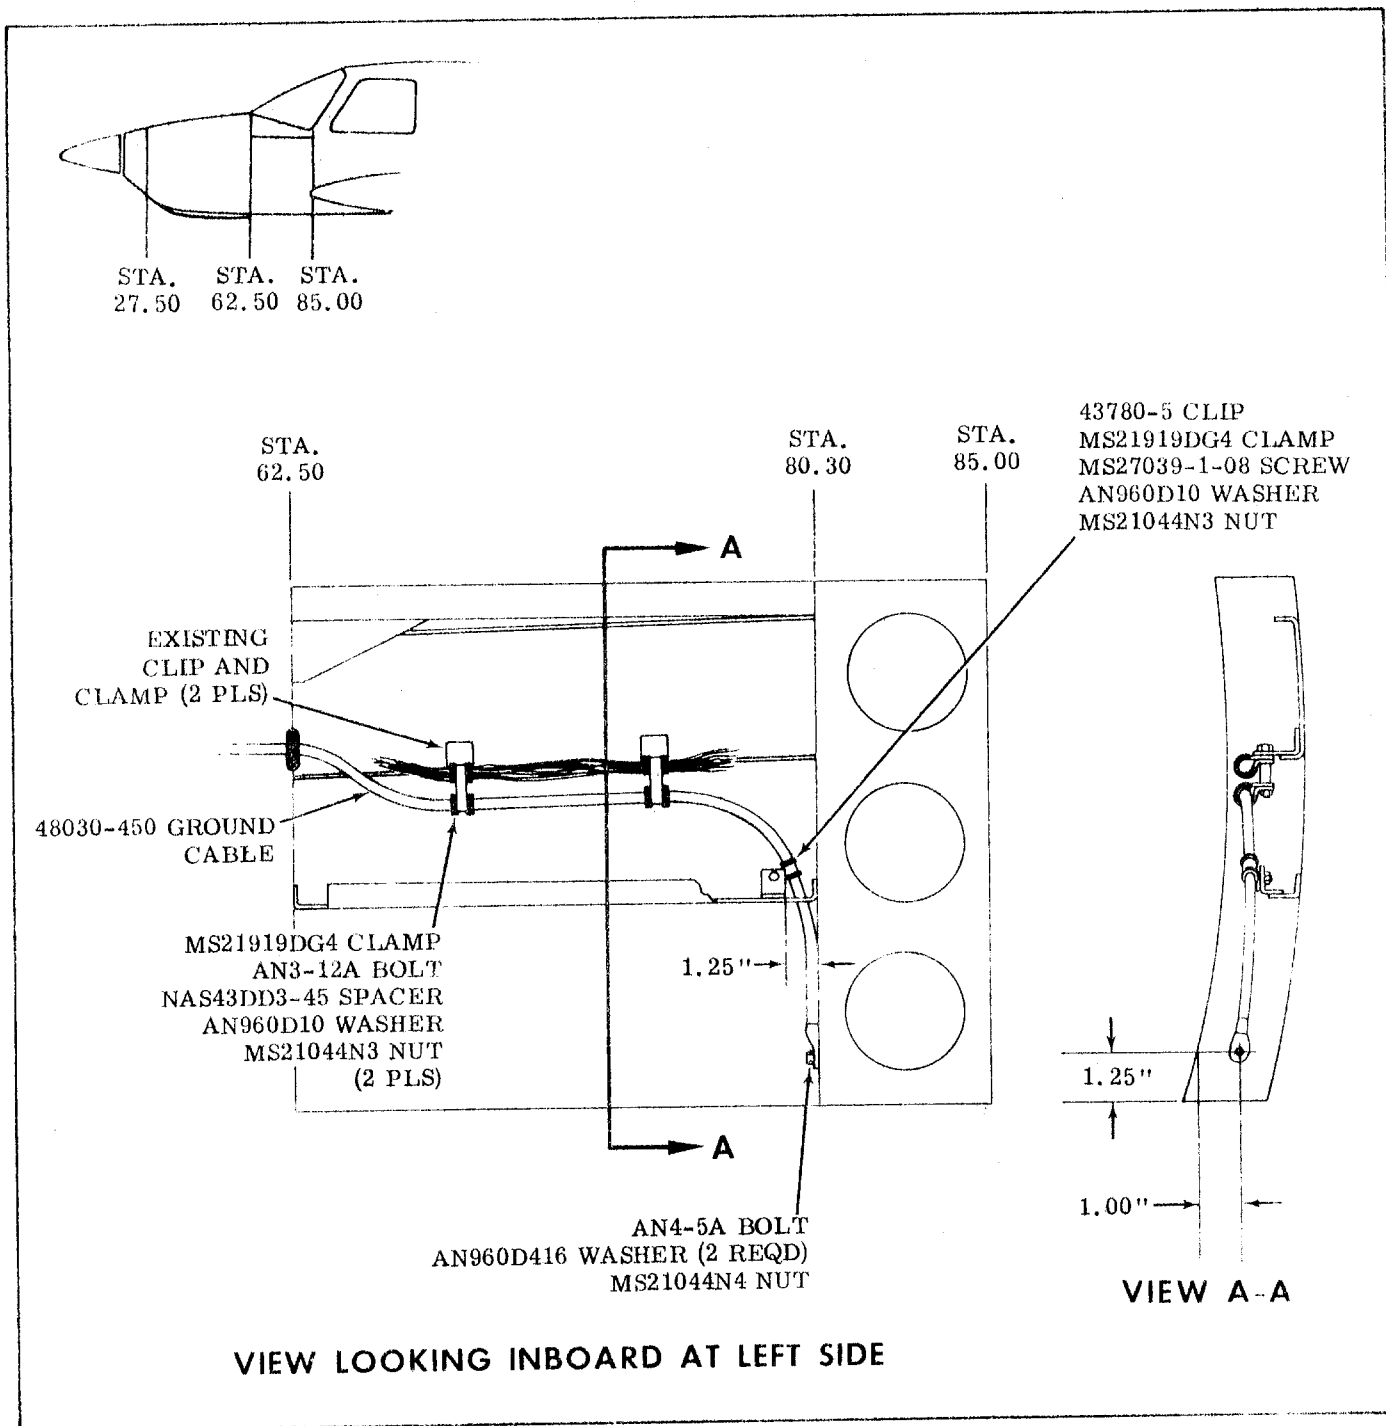

Figure 5.
10. Locate, drill and install 43780-5 clip with MS20470AD3 rivet (see Figure 5.).
12. Install MS21919DG4 clamp (3 places) between fuselage Sta. 62.50 and Sta. 80.30 to support ground cable (see Figure 5.).